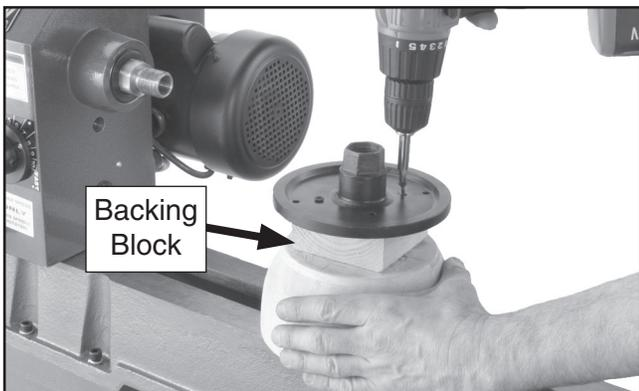

Figure 29. Example of mounting faceplate to a backing block.
1. Make the backing block (**Figure 29**) from a piece of scrap wood that is flat on both sides.